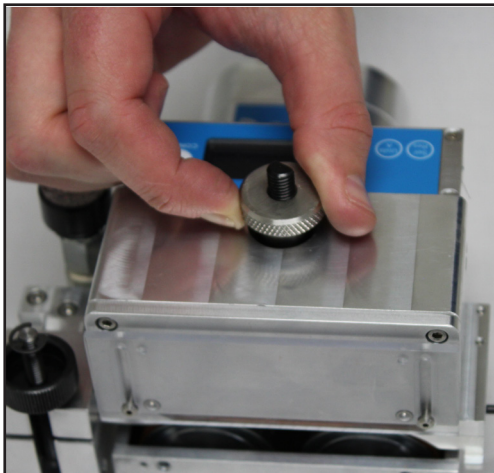

Figure 20. Raise Tractor Drive
1. Raise tractor drive by loosening tractor drive down knob (See figure 20).